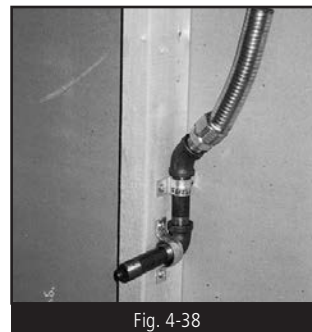

Fig. 4-38
c) Stub-outs (Fig. 4-38) – FlashShield™ CSST connections to stub-outs fabricated from approved fuel gas piping materials.